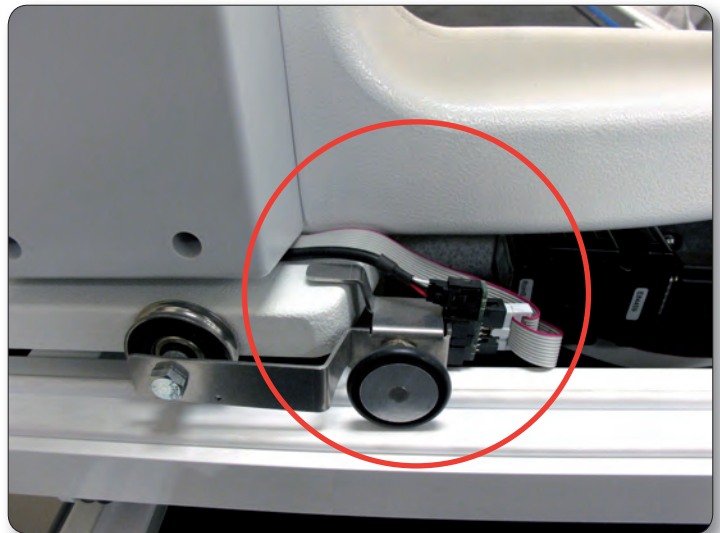

Figure 20
11. The black cables attached to the HQ Pro-Stitcher carriage should be routed up between the rear handles and the quilting machine, toward the right-hand side of the machine (looking at the machine from the back). Place the black cable clips as shown (Figure 19) and route the cable accordingly. The small black cable with the black 3-connector clip should be routed underneath the P-Pod and snapped into the Stitch Regulator Adapter Board (Page 18, U) (Figure 20).